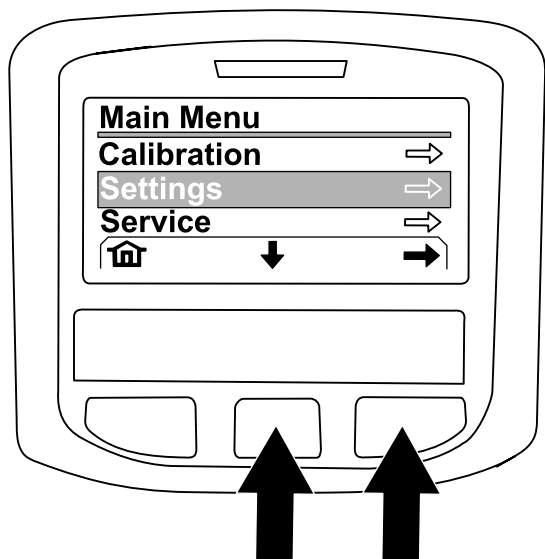

Figure 226
4. At the MAIN MENU screen, press the center button to navigate to the SETTING option, and press the right button to select the option (Figure 226).